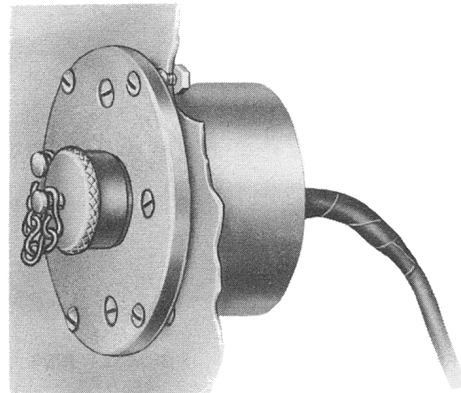

Fig. 21 — Installation of KS-8420 Jack
2.21 The KS-8420 jack (Fig. 21) is a flush-mounted, 3-contact jack housed in a brass housing with a screw cap to cover the opening when not in use. It is intended for outdoor use as an outlet for central office lines or for telephone sets installed on boats, trains, or auto trailers. This jack is suitable for use with the KS-8419 plug.